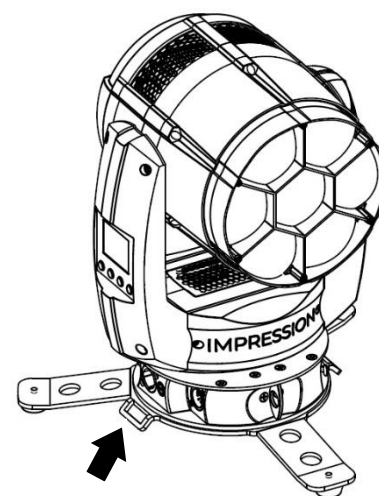

Figure 4. Slots for fixation straps in floor stand
2. See Figure 4. Slots are provided in the X5 Tripod. To eliminate any risk that the fixture may fall over during sudden head movements, immobilize it with a ratchet strap or straps passed through the slots and fastened to suitable anchoring points. Remove any slack from ratchet straps, but do not overtighten them.